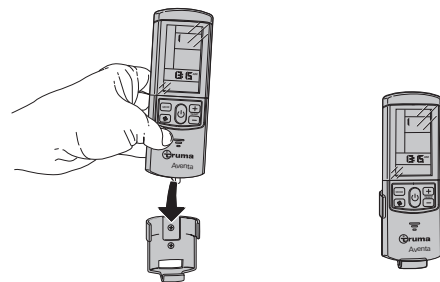

Fig. 23
- Place or remove the remote control from above into or out of the holder (Fig. 23).